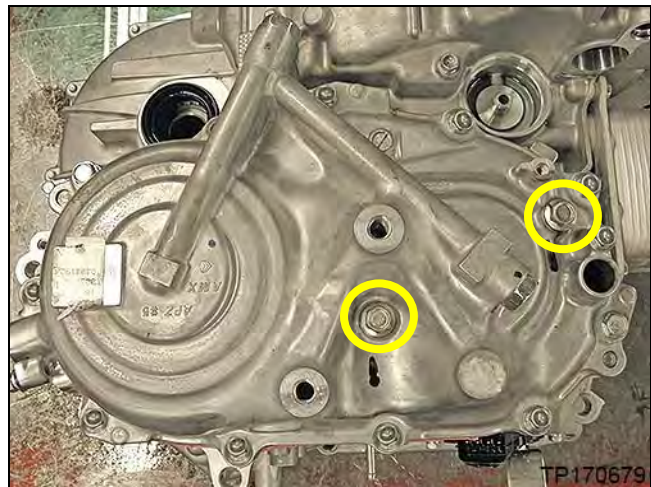

Figure 2J
2. Remove the two (2) pulley bearing retainer bolts shown in Figure 2J.